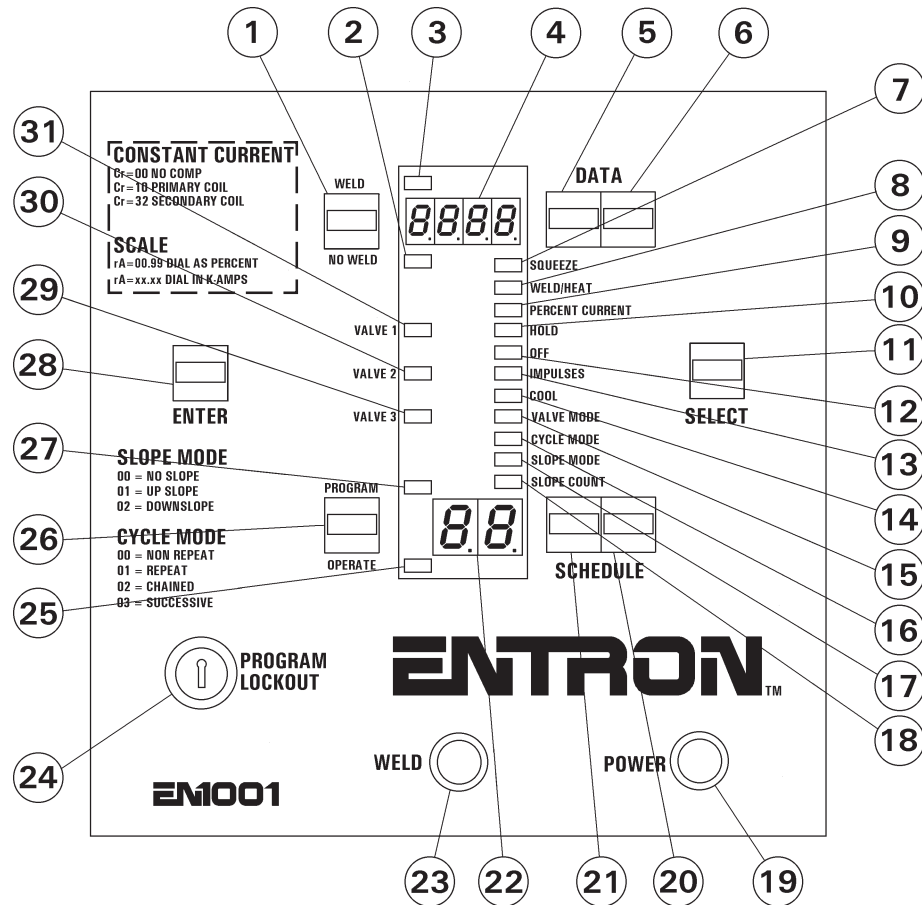

Figure 1-2. Control Panel layout
2.1 CONTROL FUNCTIONS – See Figure 1-2. *Control Panel layout*
2.1 CONTROL FUNCTIONS (cont.) – See Figure 1-2. *Control Panel layout*
2.1 CONTROL FUNCTIONS (cont.) – See Figure 1-2. Control Panel layout